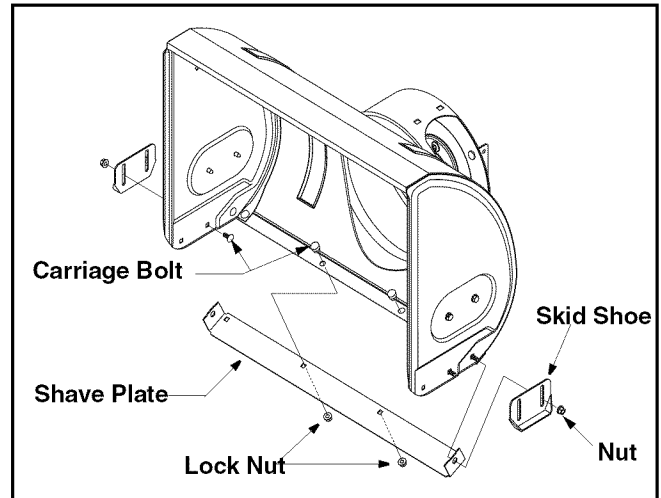

Figure 13
1. Remove four carriage bolts and lock nuts which attach two skid shoes to the snow thrower on two sides. See Figure 13 .
1. After removing both skid shoes, remove four carriage bolts and lock nuts which attach shave plate to the snow thrower housing. See Figure 13 . The shave plate and skid shoes at the bottom of the snow thrower are subject to wear. Check these periodically and replace as necessary.